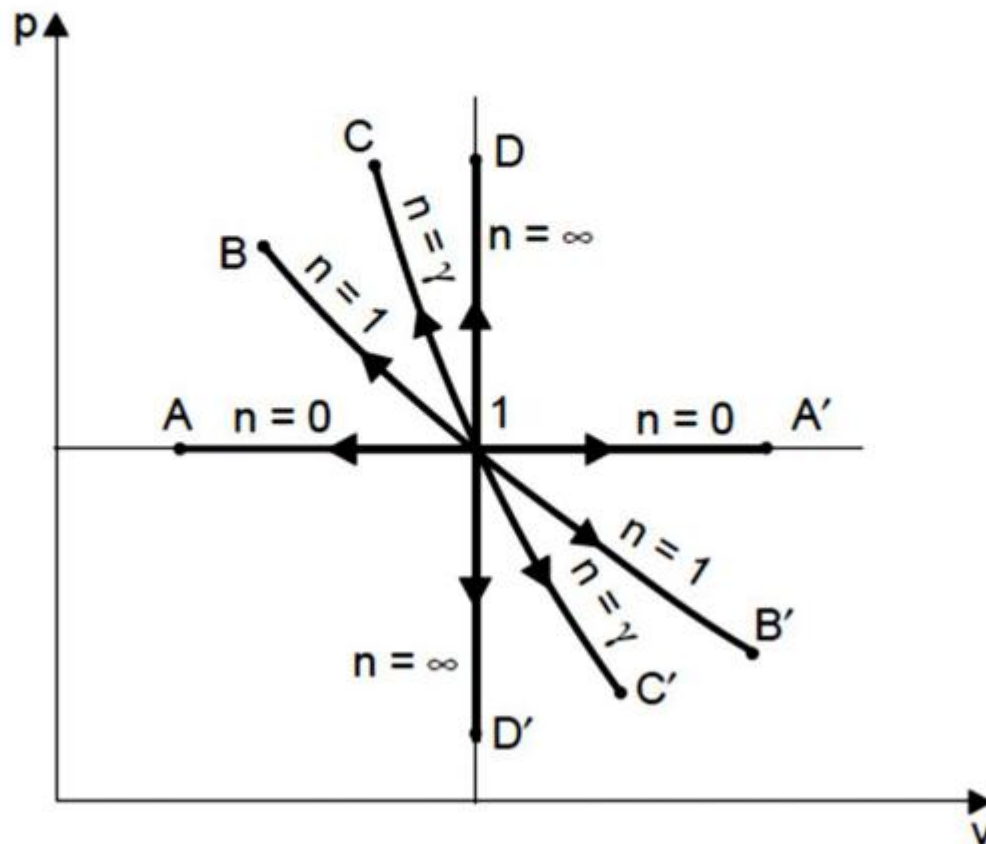

Fig. 2.19 Polytropic process for different values on index 'n'
- In a Polytropic process, the index n depends only on the heat and work quantities during the process. The various processes considered earlier are special cases of Polytropic process for a perfect gas. This is illustrated on P-v diagram in Fig. 2.19.